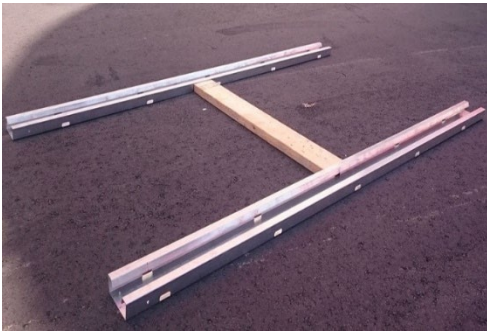

Figure 2 – Use spacer sticks to aid placement
- 4 Complete the first row of Rails of the array. Lay Rails adjacent to each other. Use chalk lines or spacer sticks to consistently align Rails and ensure Rails remain parallel to each other (Figure 2 and Figure 3).